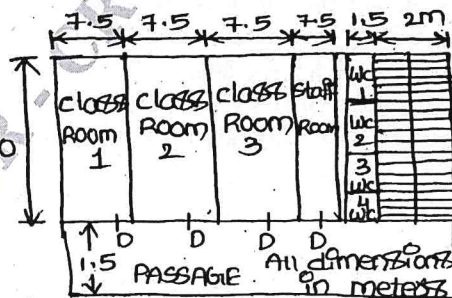

Fig.Q3(b)
- b. Fig.Q3(b) shows the plan of ground floor of school building school building consists at ground floor, first floor and second floor having same plan that if ground floor. Draw single line diagram for ground floor and calculate material required for three floors. (14 Marks)